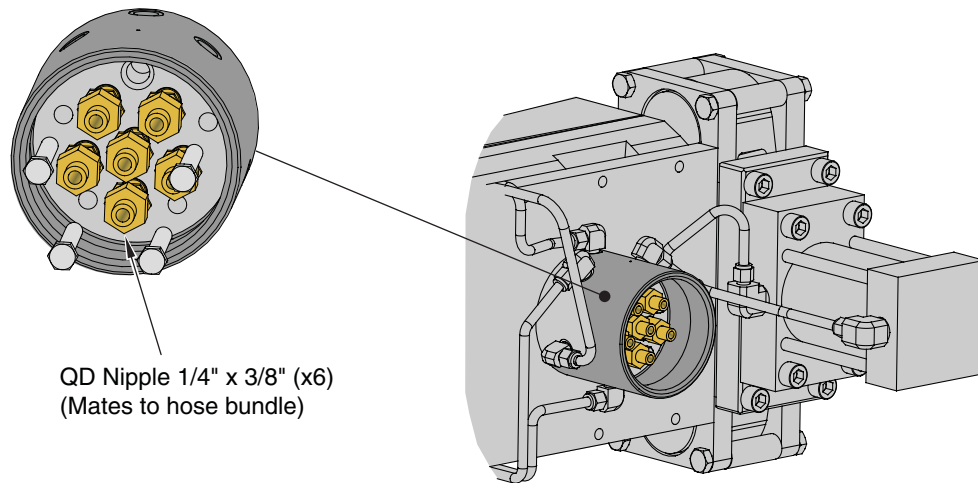

Figure 4-11. 14" Door Hose Bundle Connections
13. On the UltraLock 14" door assembly, remove the hose bundle adapter, and then connect the slip ring of the hose bundle to the door manifold assembly (see Figure 4-11 on page 4-25).